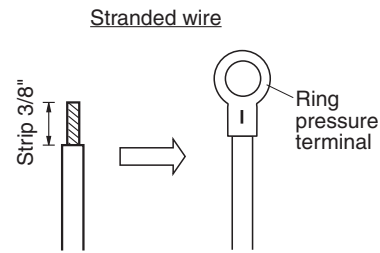

Fig. 4-4
- (1) Cut the wire end with cutting pliers, then strip the insulation to expose the stranded wiring approx. 3/8 in. and tightly twist the wire ends. (Fig. 4-4)
- (2) Using a Phillips head screwdriver, remove the terminal screw(s) on the terminal plate.
- (3) Using a ring connector fastener or pliers, securely clamp each stripped wire end with a ring pressure terminal.